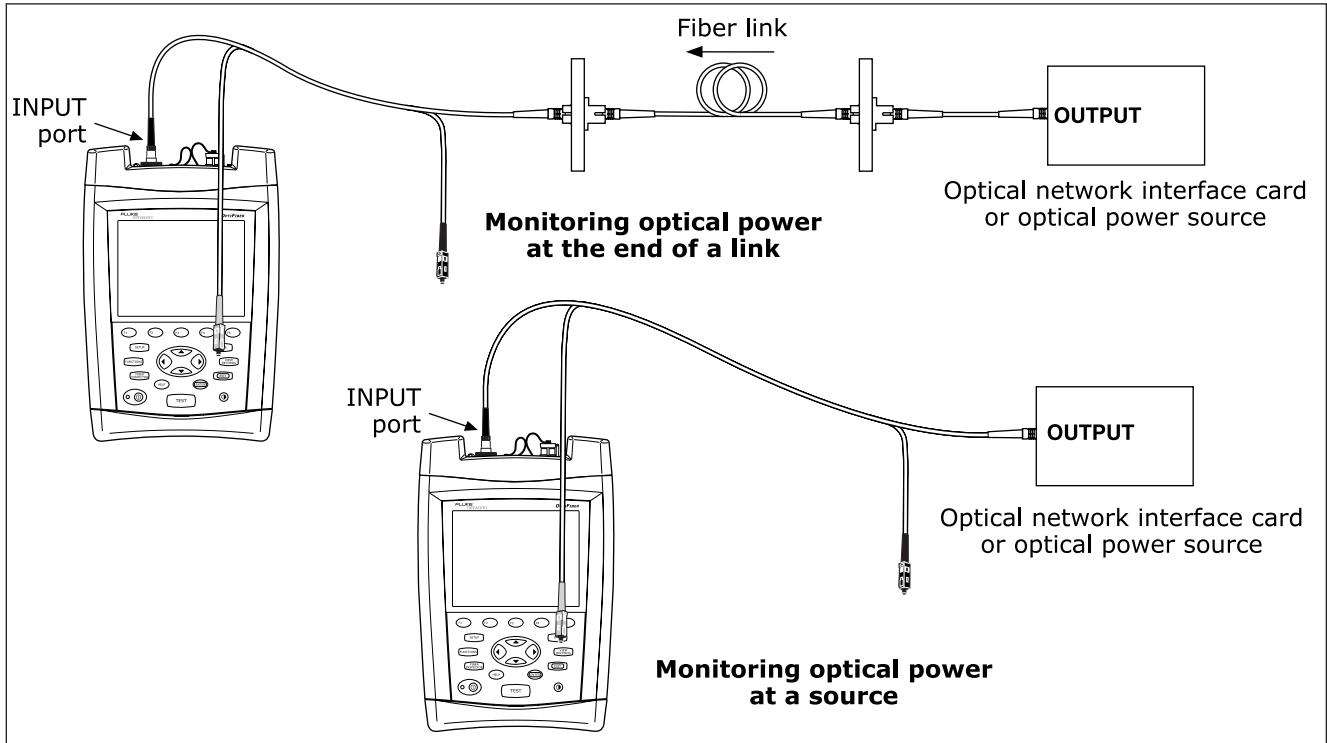

Figure 36. Connections for Monitoring Optical Power
- 3 Use the reference test cord to connect the source to the tester's INPUT port as shown in Figure 36.